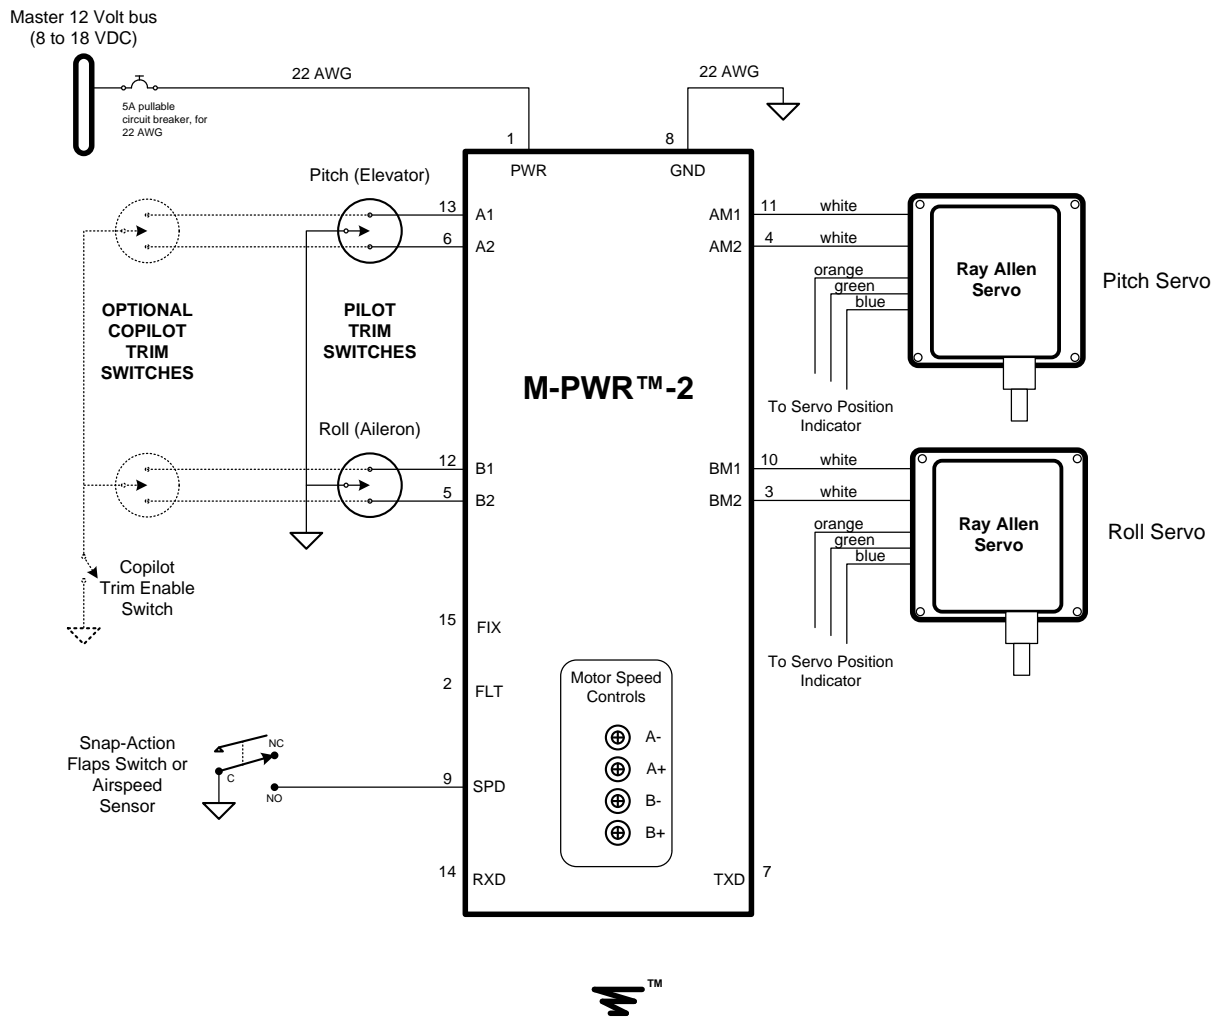

Figure 1. Typical Installation of, M-PWR-2X (Baseline Version)
1. Connect the M-PWR-2X device according to Figure 1.